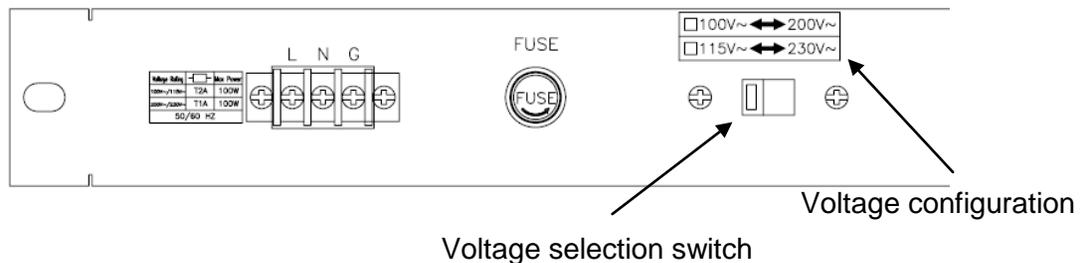

Fig 2-1 SET OF SWITCH
- 2.2.2. Refer the drawing on the rear panel of 33501F Series high power load in Fig 2-1, set The switches to the proper voltage as describe in the following: